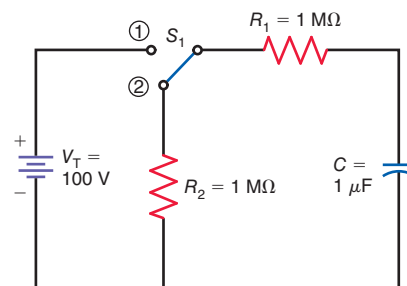

Figure 21-12
- In Fig. 21-12, what is the time constant of the circuit with S_1 in position 1?
- In Fig. 21-12, what is the time constant of the circuit with S_1 in position 2?
13. In Fig. 21-12, how long will it take for the voltage across C to reach 100 V after S_1 is placed in position 1?
14. In Fig. 21-12, how much voltage is across resistor, R_1 , at the first instant the switch is moved from position 2 to position 1? (Assume that C was completely discharged with S_1 in position 2.)
15. In Fig. 21-12, assume that C is fully charged to 100 V with S_1 in position 1. How long will it take for C to discharge fully if S_1 is moved to position 2?
16. In Fig. 21-12, assume that C is completely discharged while in position 2. What is the voltage across C exactly 1s after S_1 is moved to position 1?
17. In Fig. 21-12, assume that C is completely discharged while in position 2. What is the voltage across R_1 exactly two time constants after S_1 is moved to position 1?
18. In Fig. 21-12, what is the steady-state value of current with S_1 in position 1?
19. In Fig. 21-12, assume that C is fully charged to 100 V with S_1 in position 1. What is the value of the capacitor voltage 3s after S_1 is moved to position 2?
20. In Fig. 21-12, assume that C is charging with S_1 in position 1. At the instant the capacitor voltage reaches 75 V, S_1 is moved to position 2. What is the approximate value of the capacitor voltage 0.7 time constant after S_1 is moved to position 2?